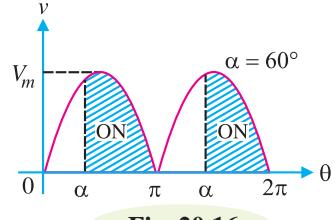

Fig. 20.16
**Solution.** Let  $v = v_m \sin \theta$  be the alternating voltage that appears between centre tap and either end of the secondary. Let  $\alpha$  be the firing angle as shown in Fig. 20.16. This means that SCR will conduct at  $\theta = \alpha$ . Clearly, SCR circuit will conduct from  $\alpha$  to  $180^\circ$ .